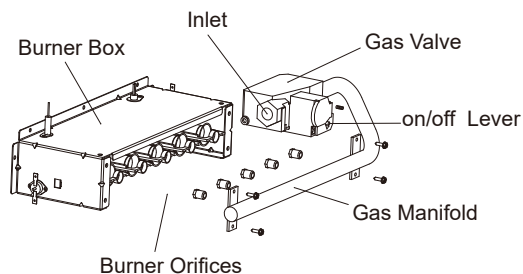

Fig. 8-1 Gas Mainfold Blow-up
See Fig.8-1.
1. Remove and save two screws holding J-Box. (See Fig. 8-1.)